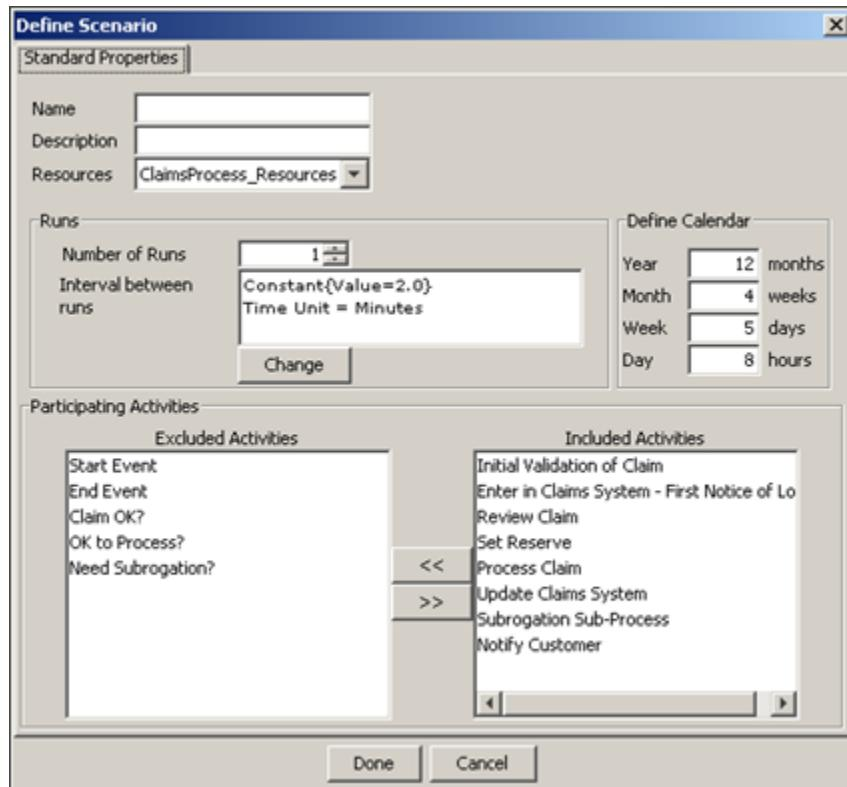

Figure 7: Create New Scenario
1. In the Process Simulator applet, click **Create New Scenario** (icon). The Define Scenario dialog box appears (see Figure 7).